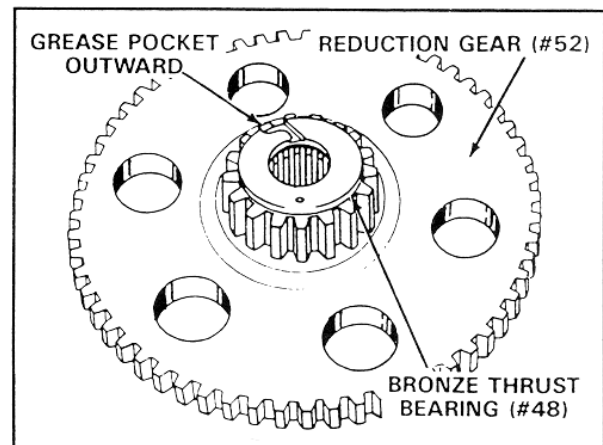

FIGURE 18
- 8.05 **IMPORTANT!** Bronze thrust bearing (#48) grease pocket must face outward. See figure 18.